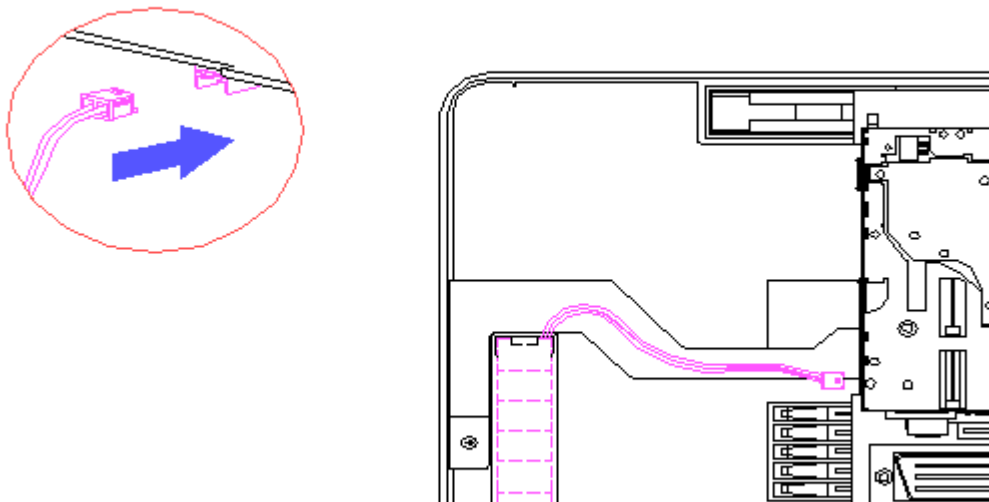

Figure 3-73. Connecting the Auxiliary Battery
8. Connect the auxiliary battery cable to the system board (Figure 3-73).